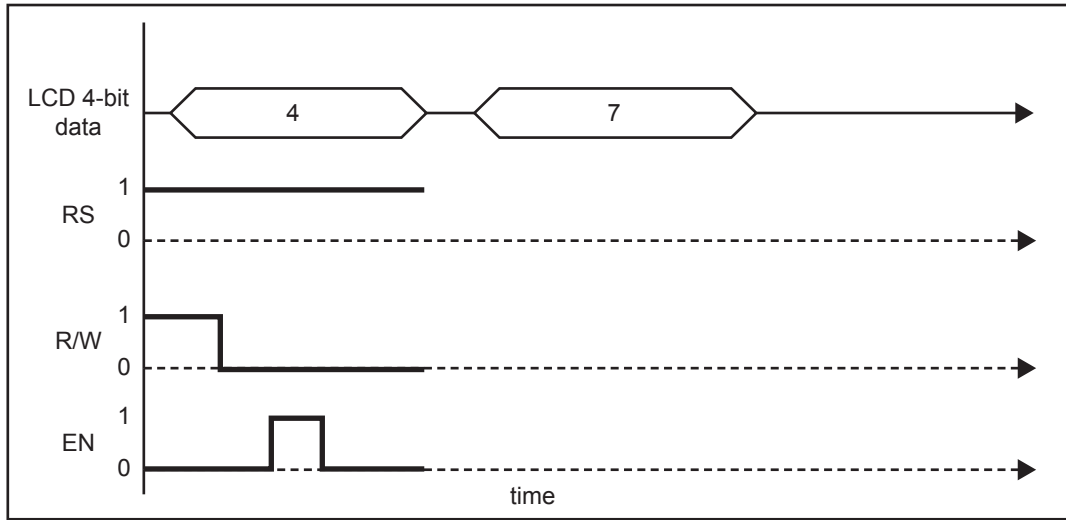

Figure 11
Figure 11 shows a partly completed timing diagram displaying how data is sent from the microcontroller to the LCD and how the high-order 4 bits are latched onto the LCD.
- a. Refer to the partly completed timing diagram in Figure 11.
- i. Complete the timing on Figure 11, showing how the byte 47H is written to the data register. Note: The most significant nybble (4) has already been sent to the LCD. 3 marks